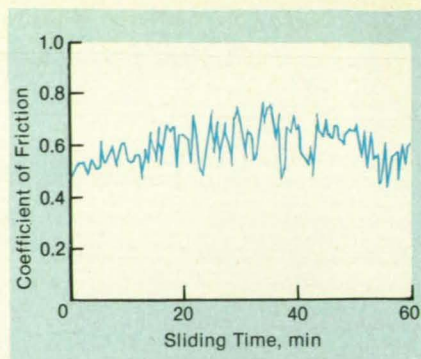

Figure 2. The **Computer Generated This Plot** from data taken in a test of oscillatory sliding of carbon/carbon composite specimens at a temperature of 1,200 °C.
The tribometer is connected to a data-acquisition system that uses computer programs developed specifically to enhance the productivity and convenience of the testing facility. The data-acquisition system is based on a personal computer (PC) with an IEEE 488 interface. Specialized programs were written in an expanded form of BASIC. The programs record average values of data that would normally be read from meters and chart recorders. The data are automatically stored in usable form and can be easily manipulated and plotted after each test (see Figure 2).